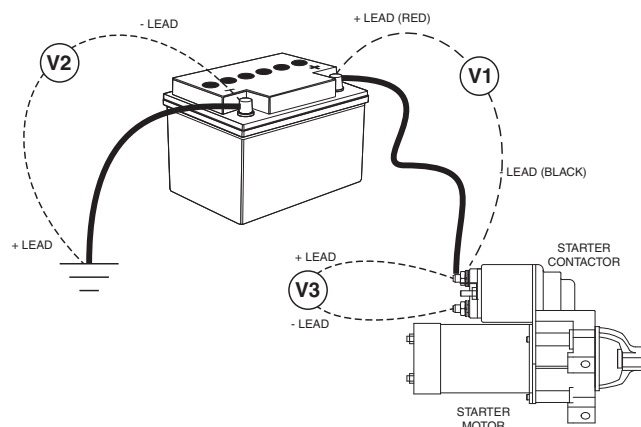

Figure 56. Starter Circuit Voltage Drop Test
5. Refer to Figure 56 for battery post and starter connections. Perform a voltage drop test as indicated.
7. Record readings from test points V1, V2 and V3 as depicted in Figure 56. Although resistance-free connections, wires